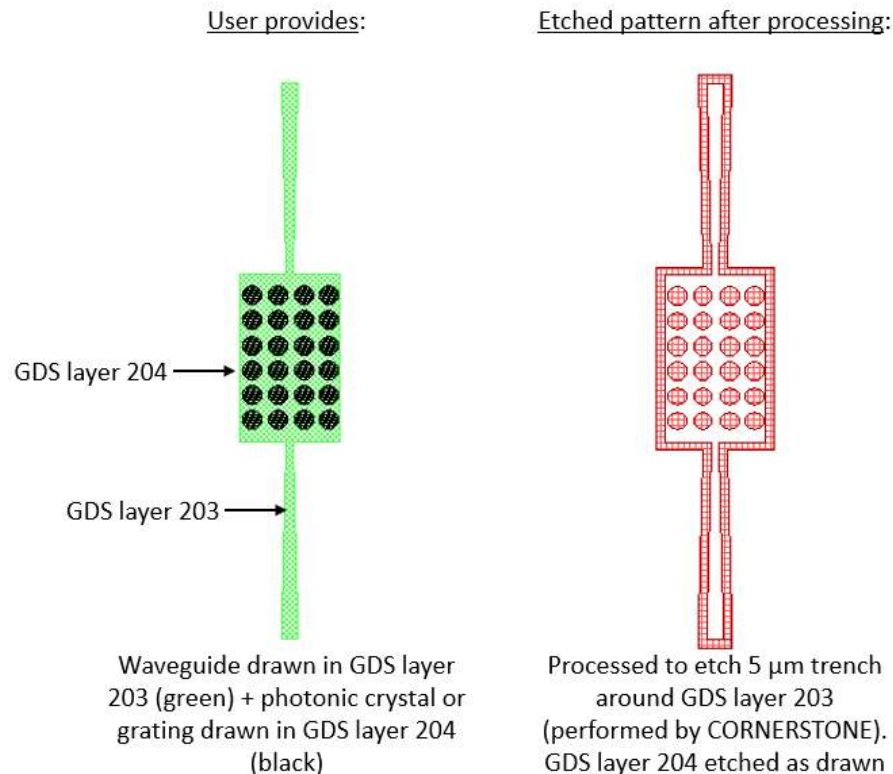

Figure 2 – Example photonic crystal structure using GDS Layers 203 & 204.
- Silicon Nitride Etch 1: 200 nm full etch to BOX – GDS Layer 204 (Dark field): Drawn objects on this layer will be exposed to the silicon nitride full etch to the BOX. An example photonic crystal structure is shown in Figure 2. The important thing to note here is that the waveguide layer drawn in GDS layer 203 should overlap the structures drawn in GDS layer 204, so that when the 5  $\mu\text{m}$  trenches are generated by CORNERSTONE, a continuous waveguide remains. Note that the client should contact CORNERSTONE team if the design has photonic crystal structures with a diameter smaller than 600 nm to decide on whether structures need to be biased.